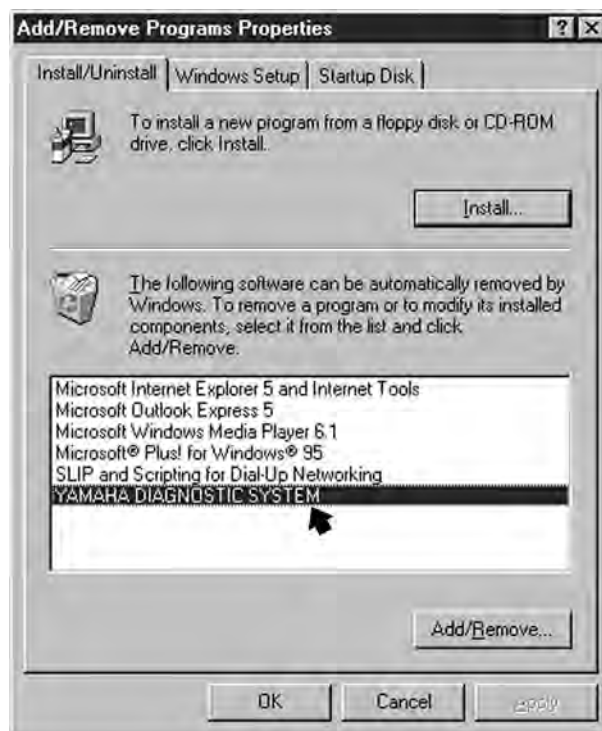

Fig. 135
4. Select **YAMAHA DIAGNOSTIC SYSTEM** and click the **Add/Remove** button. (Fig. 135)